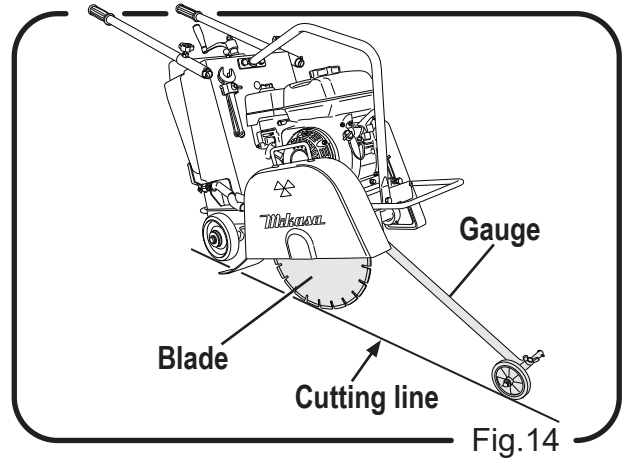

Fig.14
1. Align the blade with cutting line. Aligning is easier if it is done with the machine lifted.(Fig.14)